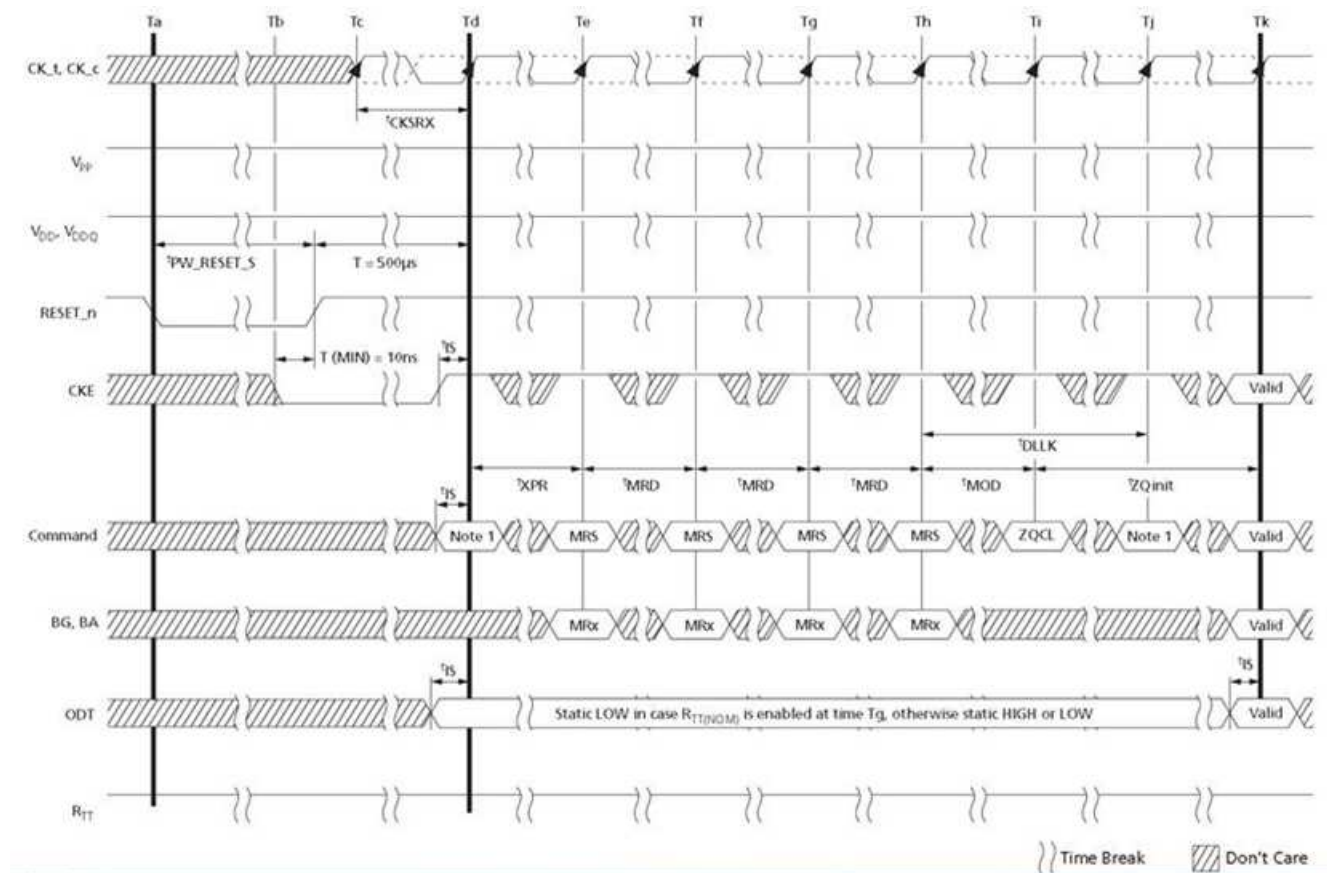

Figure 14: RESET Procedure at Power Stable Condition
- See RESET Procedure at Power Stable Condition (figure 14).
- Input signal must meet VIL/VIH(AC) to meet tIS timings and VIL/VIH(DC) to meet tIH timings.
- The AC peak noise on VREF may not allow VREF to deviate from VREFCA(DC) by more than $\pm 1\%$ VDD (for reference: approximately $\pm 12\text{mV}$).